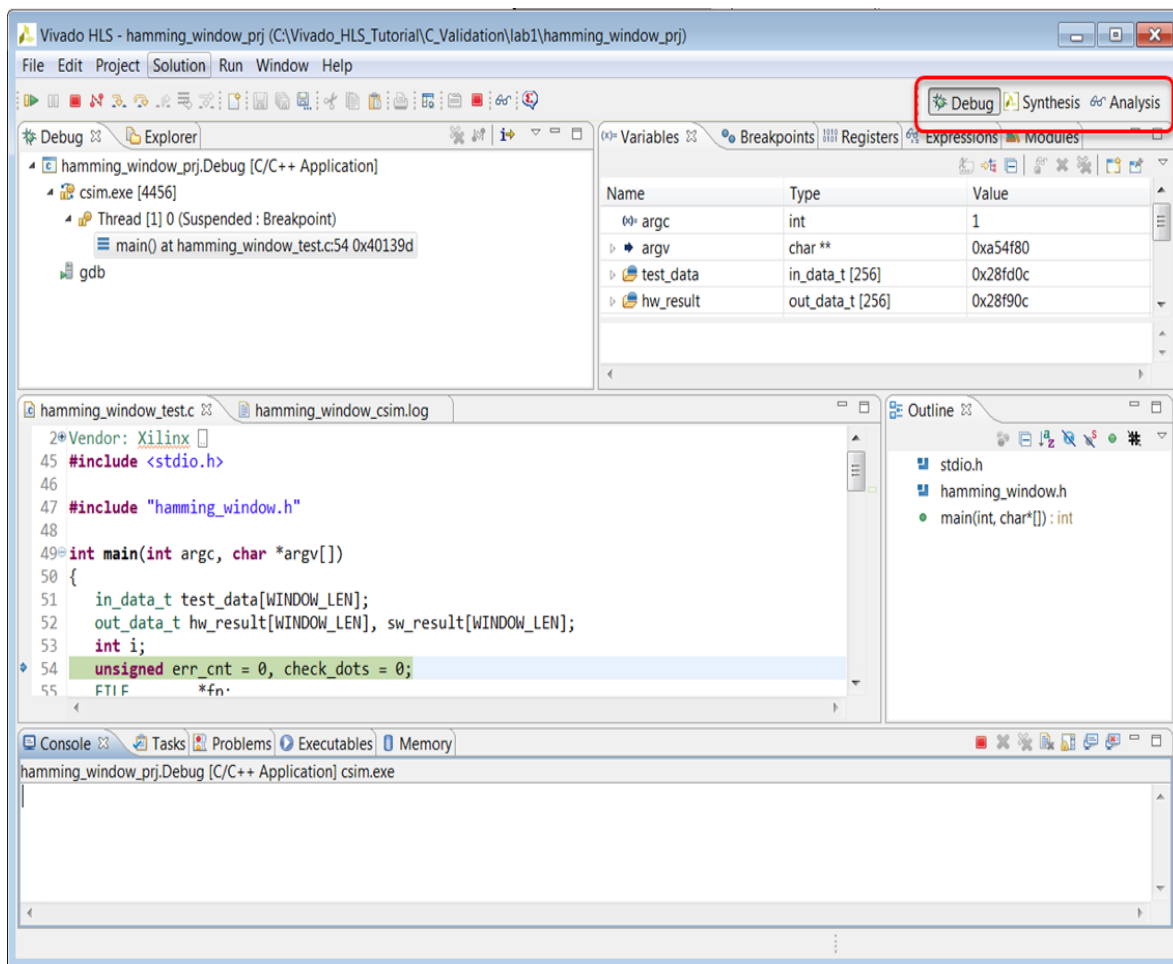

Figure 3-7: The HLS Debug Perspective
The Launch Debugger option compiles the C code and then opens the Debug environment, as shown in Figure 3-7. Before proceeding, note the following:
- Highlighted at the top-right in Figure 3-7, you can see that the perspective has changed from Synthesis to Debug. Click the perspective buttons to return to the synthesis environment at any time.